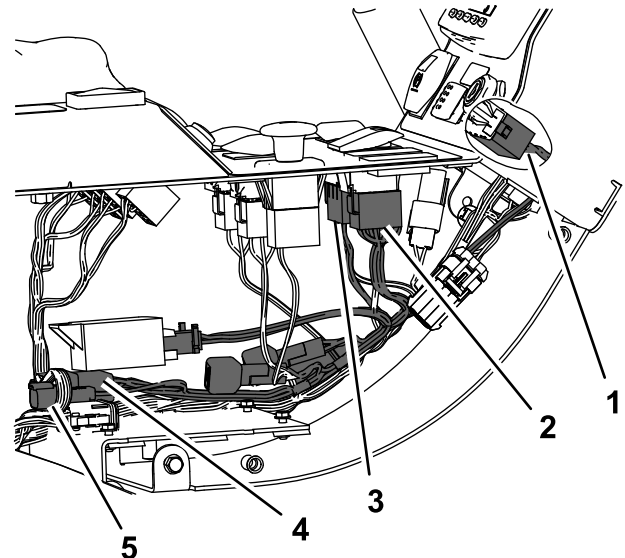

Figure 5
5. Connect the new wire harness to the hazard switch, turn-signal switch, and auxiliary-brake switch (Figure 5).
6. Connect the wire harness to the machine main wire harness inside the console (Figure 5).